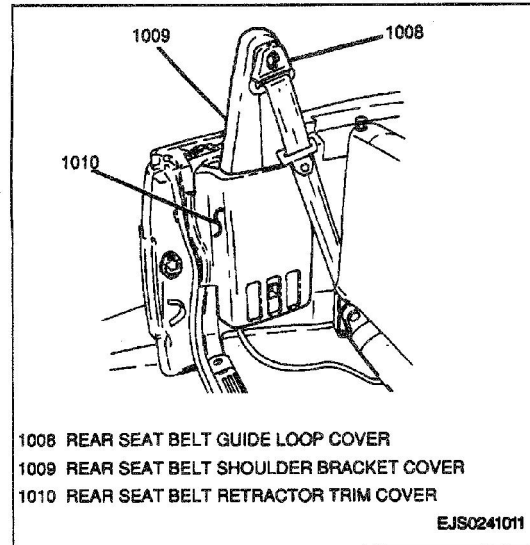

Figure 10—Rear Seat Belt Guide Loop Anchor Bolt
1. Two screws and rubber stopper from rear seat belt retractor trim cover (Figure 10).
2. Rear seat belt guide loop cover and anchor bolt (Figure 10).
3. Rear seat belt guide loop anchor bolt (Figure 10).
5. Rubber stopper to rear seat belt retractor trim cover; secure with two screws (Figure 10).